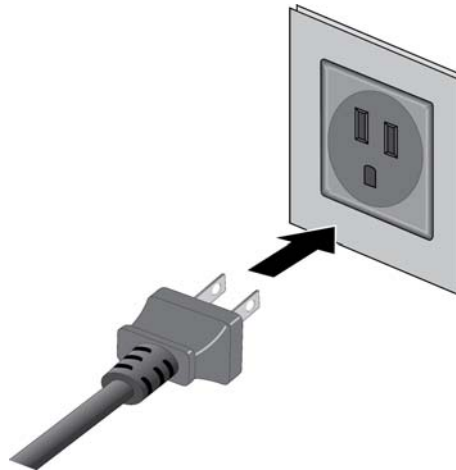

Figure 26. Connecting the Power Cord on the PWRADP-01 Power Adapter to an AC Source
3. Connect the power adapter into an appropriate AC power source. Refer to Figure 26.